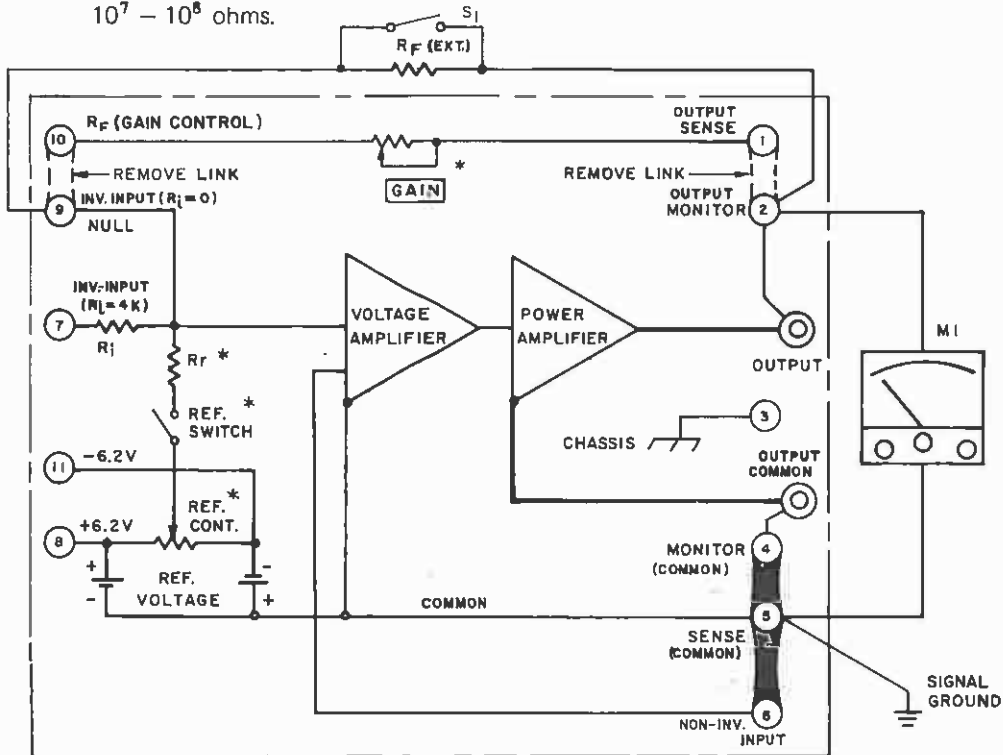

FIG. 3-5 TEST SET-UP FOR OFFSET NULLING.
- OFFSET VOLTAGE ZERO ADJUST (Refer to FIG. 3-5):
- OFFSET CURRENT ZERO ADJUST (Refer to FIG. 3-5):